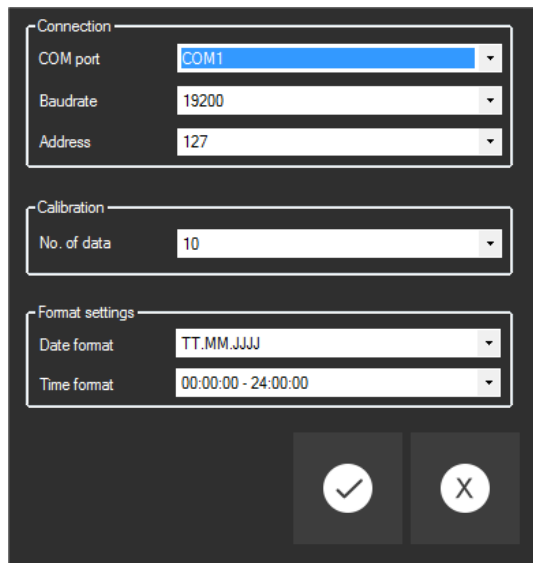

Fig. 45 Settings
- 2) Select correct COM-Port in the menu (see Fig. 45)